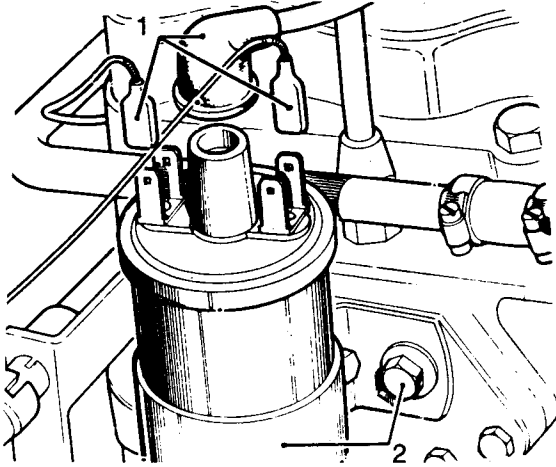

Fig D4.1
- (2) Refer to Fig D4.1. Disconnect the leads (1) from the ignition coil.
- (3) Unscrew the fixings (2) and remove the coil.